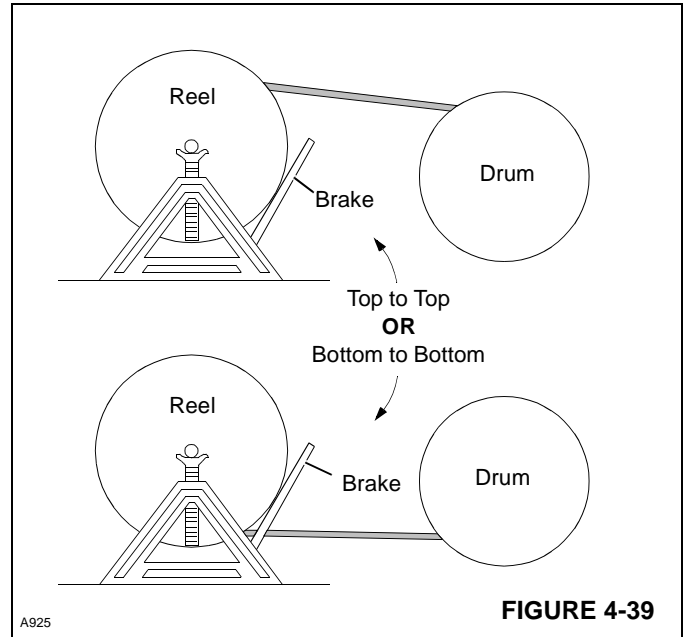

FIGURE 4-39
2. Provide a brake at shipping reel (see Figure 4-39) so wire rope can be wound tightly onto drum.
3. Avoid a reverse bend when winding wire rope onto drum: wind from top of reel to top of drum or from bottom of reel to bottom of drum as shown in Figure 4-39.